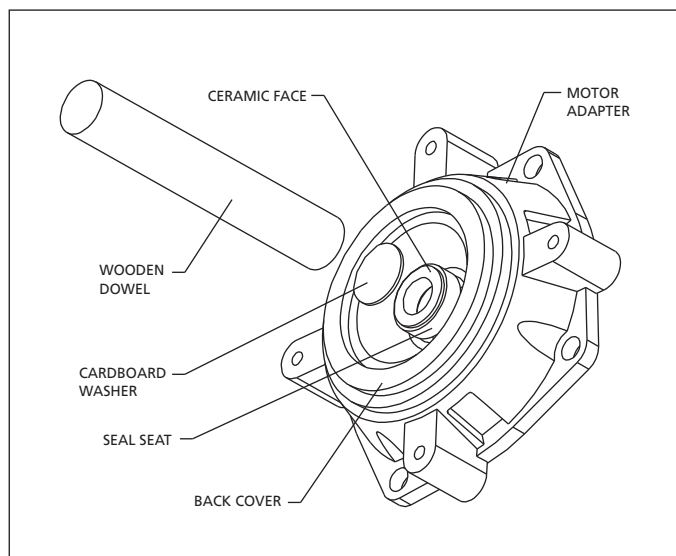

Figure 6 - Seal Seat Assembly
- Wet the rubber portion of the new seal seat (Ref. No.4) with a light coating of soapy water. While wearing clean gloves or using a clean light rag, press seal seat squarely into adapter recess. Use the cardboard washer (usually supplied with new seal) to place over the polished surface and use a piece of pipe or dowel rod to press in firmly but gently. Avoid scratching the white ceramic face (see Figure 6).